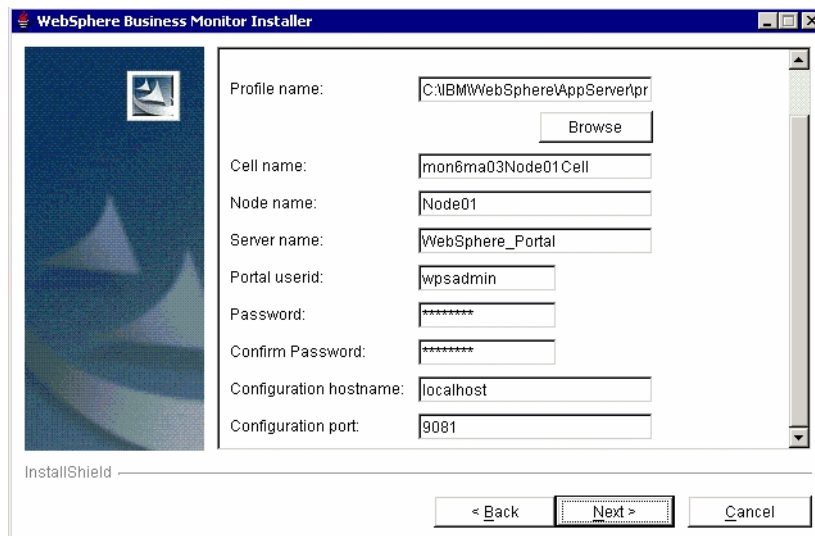

Figure B-17 Monitor Dashboard Client: Portal settings
- ▶ Click *Next* and the portal settings are displayed (Figure B-17).